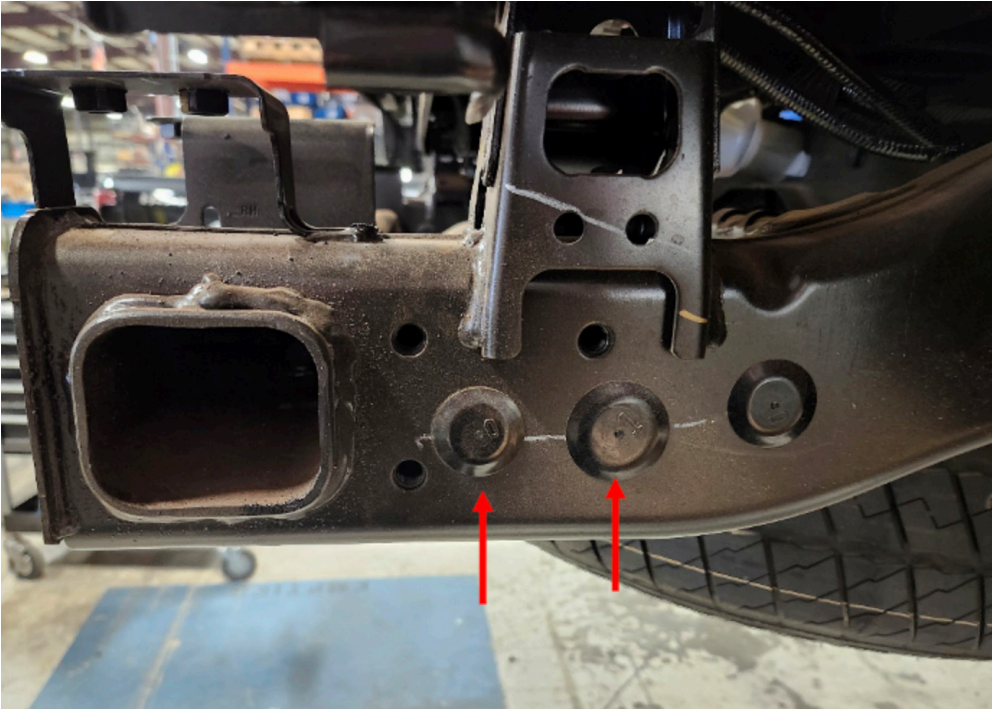

Figure 17
20. Remove two (2) rear most plastic plugs on inside and outside of frame using hammer and straight screwdriver. Repeat for both sides of truck. (Figure 17)